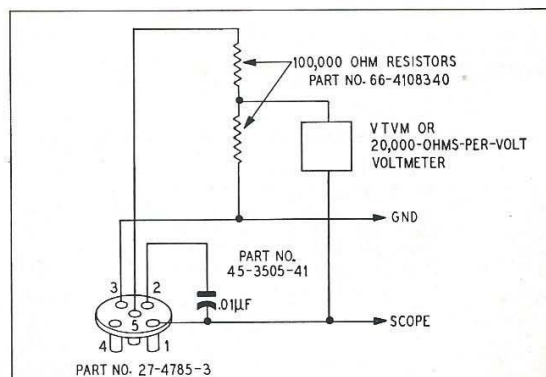
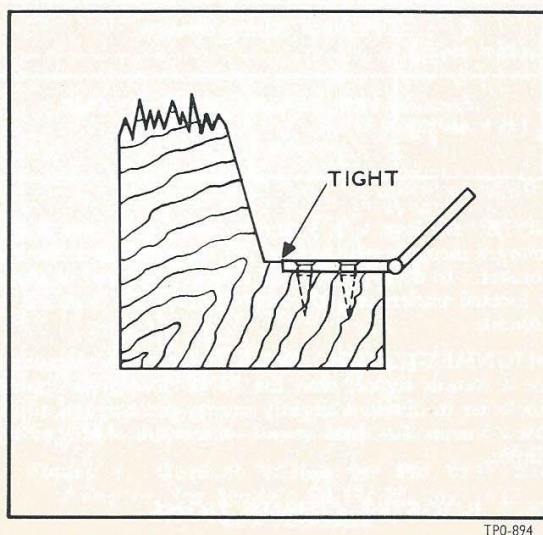

Figure 4. Correct Wiring for FM TEST Jack Adapter, for Models 50-T1600, 50-T1632, and 50-T1633
Figure 6. Substituting Hinge, Model 50-T1600
- The FM TEST jack adapter shown on page 6, figure 6, should be wired as shown in figure 4.
It is recommended that this new hinge be used for all replacements. Due to the larger size, it is necessary to butt this hinge tightly against the ledge. See figure 6.